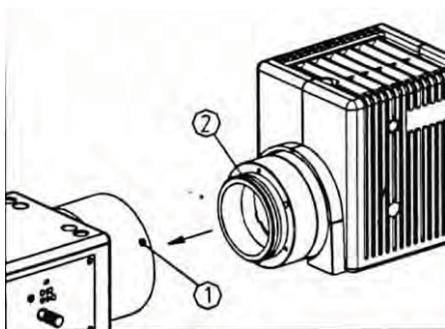

Fig.2
- (1) Loosen the fastening screws ① on the illuminator completely. (See Fig.2)
- (2) Gently push the light source group ② into the light source connection base ③ of the illuminator group and push it to the bottom, then tighten the fastening screw ①.